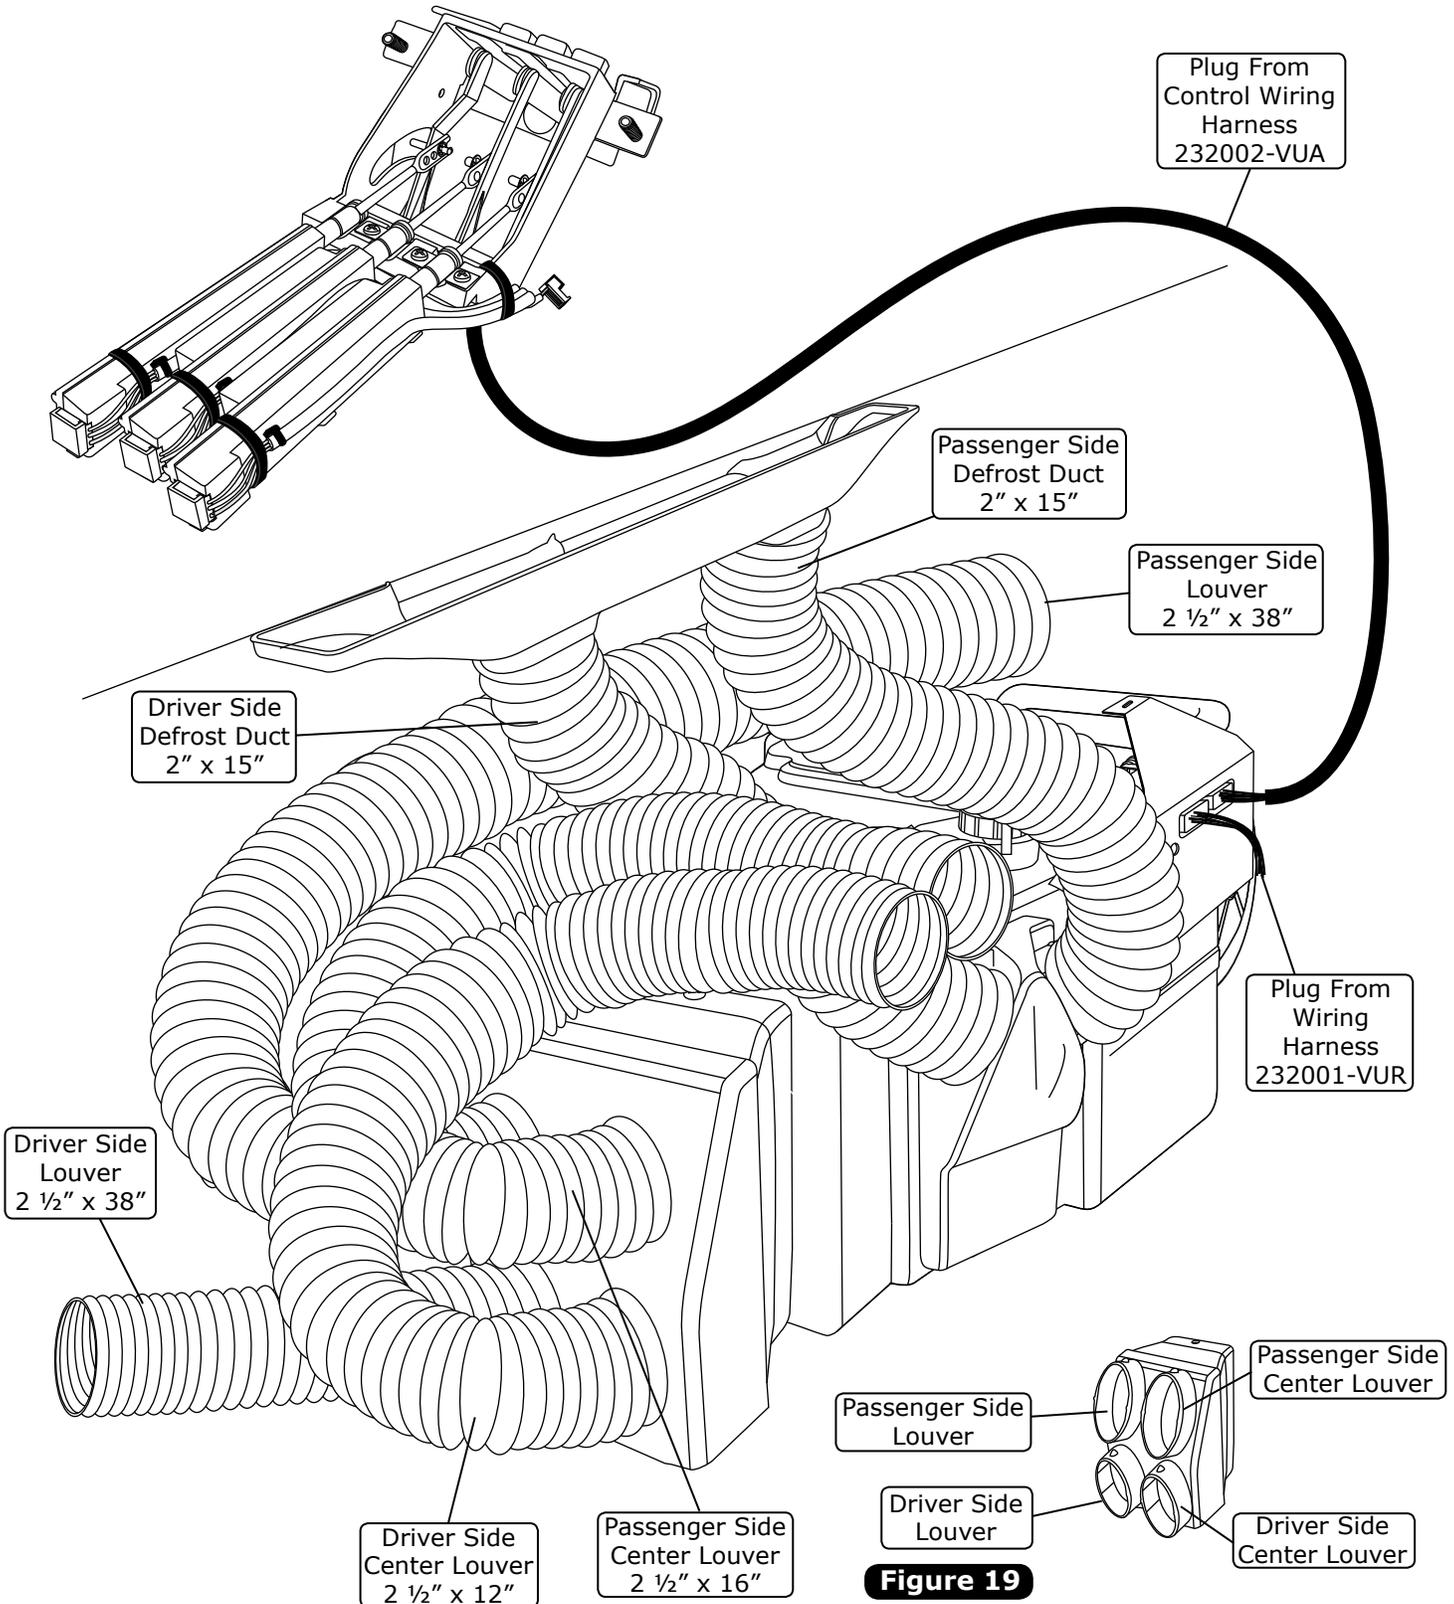

Figure 19
1. Install the duct hoses as shown in Figure 19, Page 18.
4. Plug the wiring harnesses into the ECU module on the sub case as shown in Figure 19, Page 18. Wire according to the wiring diagrams on Pages 20 & 21.